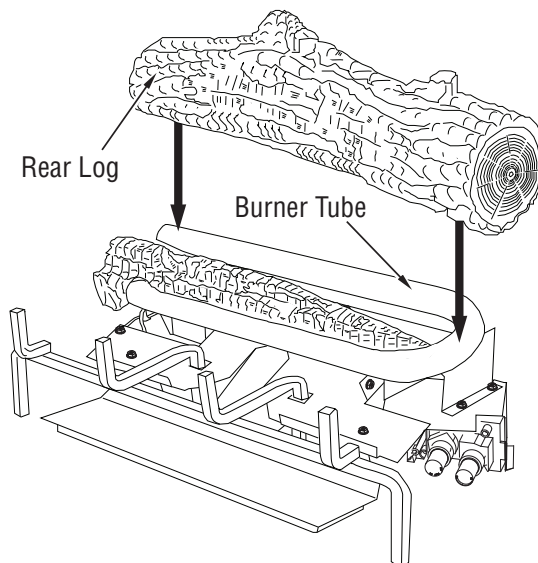

Figure 50 - Installing Rear Log
2. Place the rear log on the base assembly as shown in **Figure 50**. The rear log has grooves in the bottom which will allow the log to sit on the burner and behind the bottom ember log